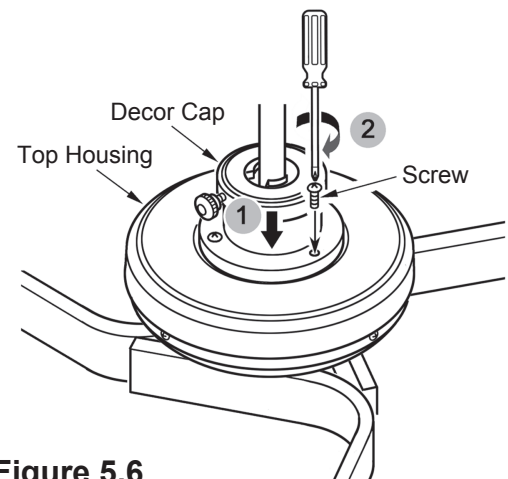

Figure 5.6
Step 6. Reinstall the three screws on the top housing to secure the Decorative cap. (Fig. 5.6)